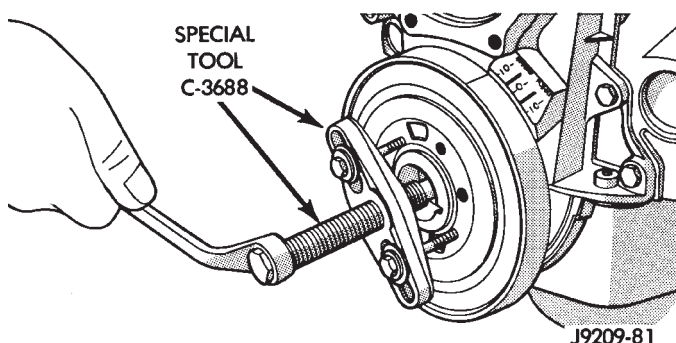

Fig. 24 Vibration Damper Assembly
- (1) Disconnect the negative cable from the battery.
- (2) Remove fan shroud retainer bolts and set shroud back over engine.
- (3) Remove the cooling system fan.
- (4) Remove the serpentine belt. Refer to Group 7, Cooling System.
- (5) Remove the vibration damper pulley.
- (6) Remove vibration damper bolt and washer from end of crankshaft.
- (7) Install bar and screw from Puller Tool Set C-3688. Install two bolts with washers through the puller tool and into the vibration damper (Fig. 24).